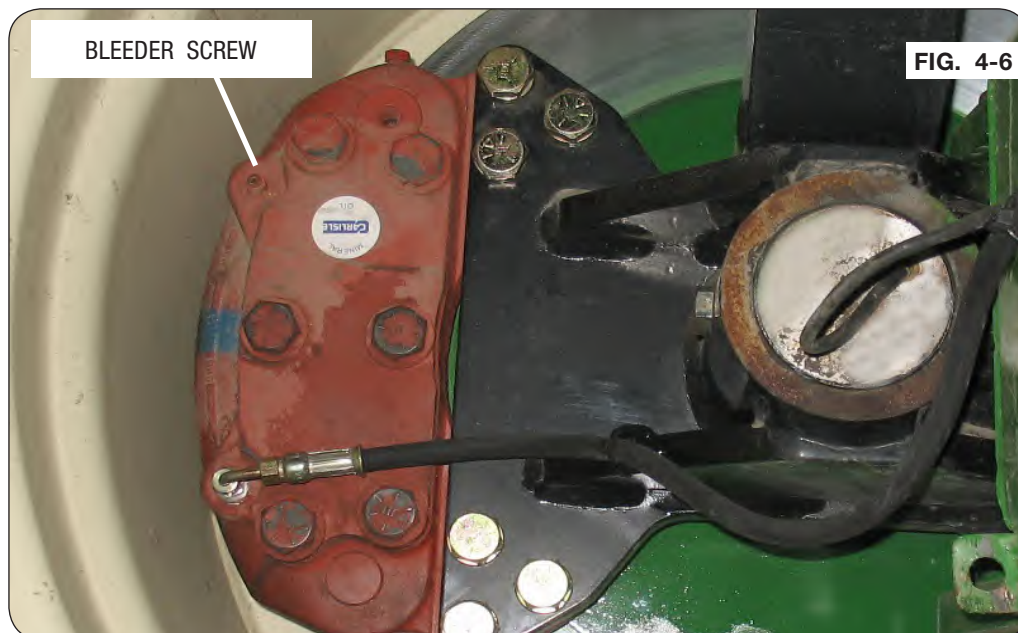

FIG. 4-6
3. Loosen the bleeder screw, at the top of the brake caliper and allow air bubbles to escape. Close bleeder screw when oil flow is free of bubble interruptions and flowing steady. If necessary, pump the brake pedal to build circuit pressure. See Fig. 4-6.